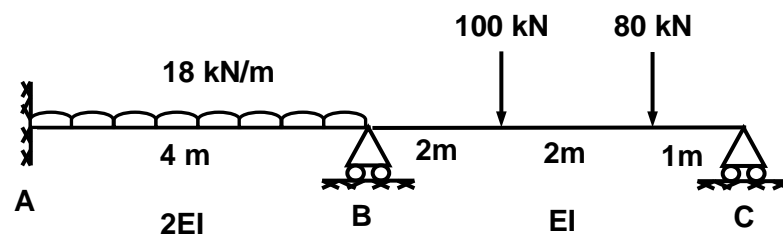

Figure-4
Q.5 Analyse the beam shown in **Figure-4** using appropriate method and draw bending moment diagram. Support B is sinking by 20 mm downwards and support C is sinking by 10 mm downwards. Consider $EI = 2000 \text{ kN m}^2$